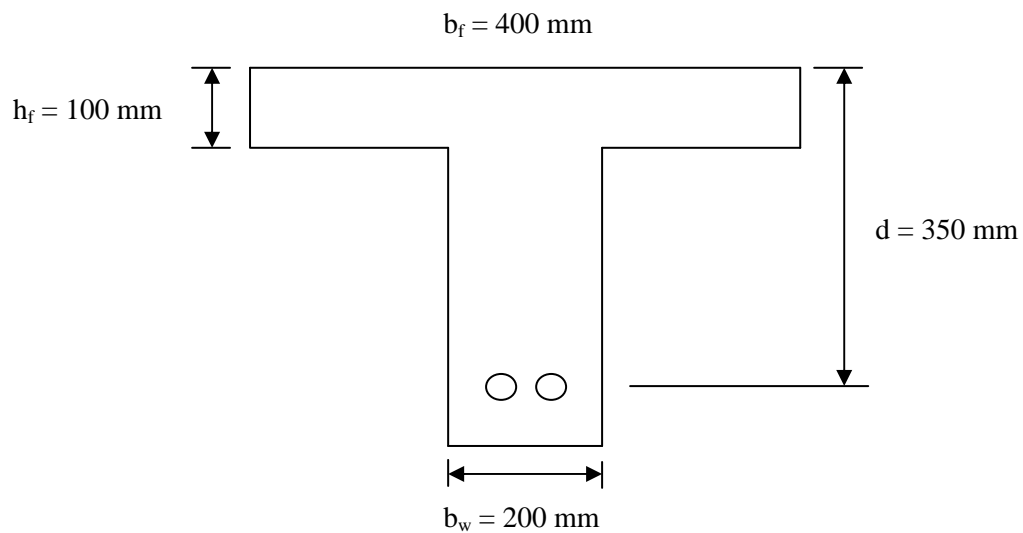

Figure 1.0 : Cross-section of T-beam.
- b) The ultimate design moment to be resisted by the T-section beam as shown in Figure 1.0 is 200 kNm. The characteristic strengths of reinforcement and concrete are  $f_y = 460 \text{ N/mm}^2$  and  $f_{cu} = 30 \text{ N/mm}^2$ , respectively. Assuming the depth of the stress block below the flange, calculate the area of tension reinforcement required using simplified rectangular stress block method.